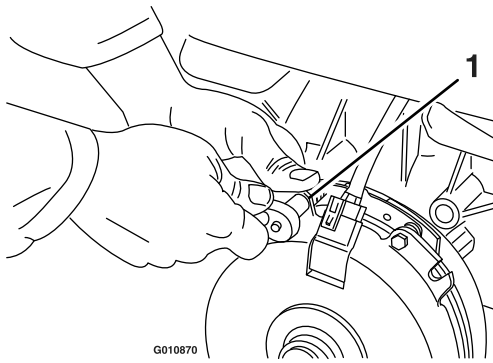

Figure 79
- A. Loosen both brake-mounting bolts 1/2 to 1 full turn as shown in Figure 79.